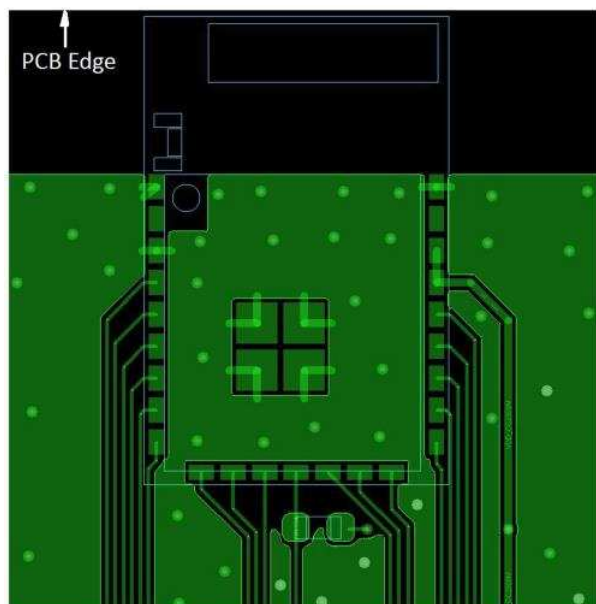
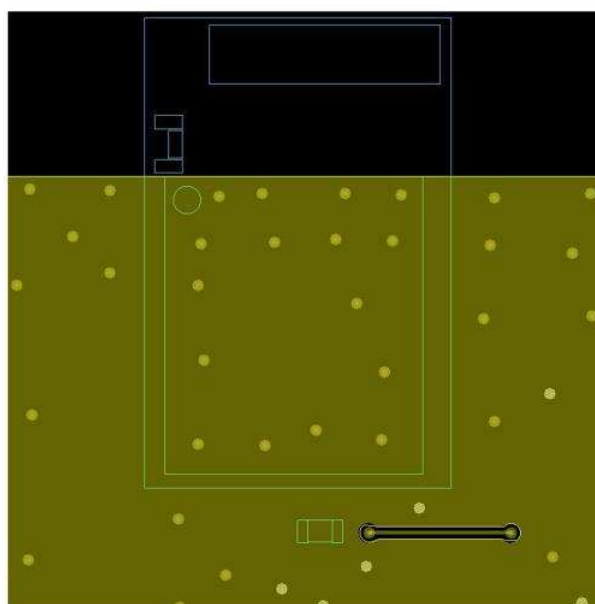

Figure 7-2. Top Layer
Figure 7-3. Bottom Layer
- TI recommends leaving copper clearance on all PCB layers underneath the antenna area, as shown in Figure 7-2 and Figure 7-3.